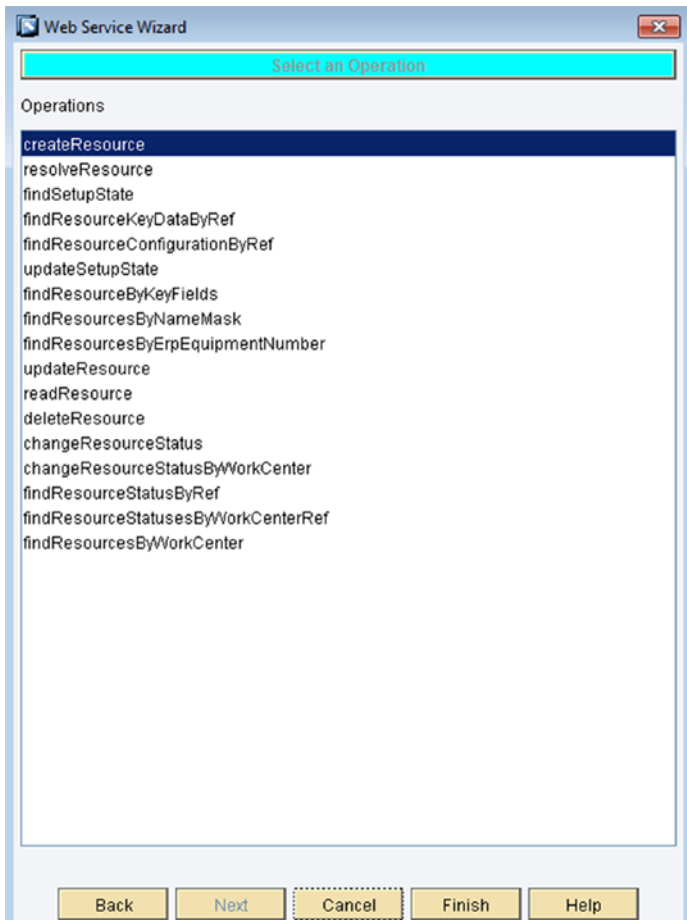

Figure 6-81. Operation selection in Web Service
4. After selecting the port in the next view, Operation needs to be selected, as shown in Figure 6-81.